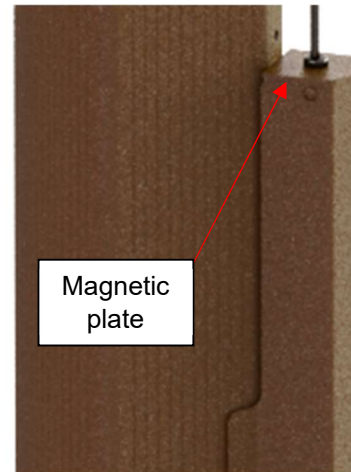
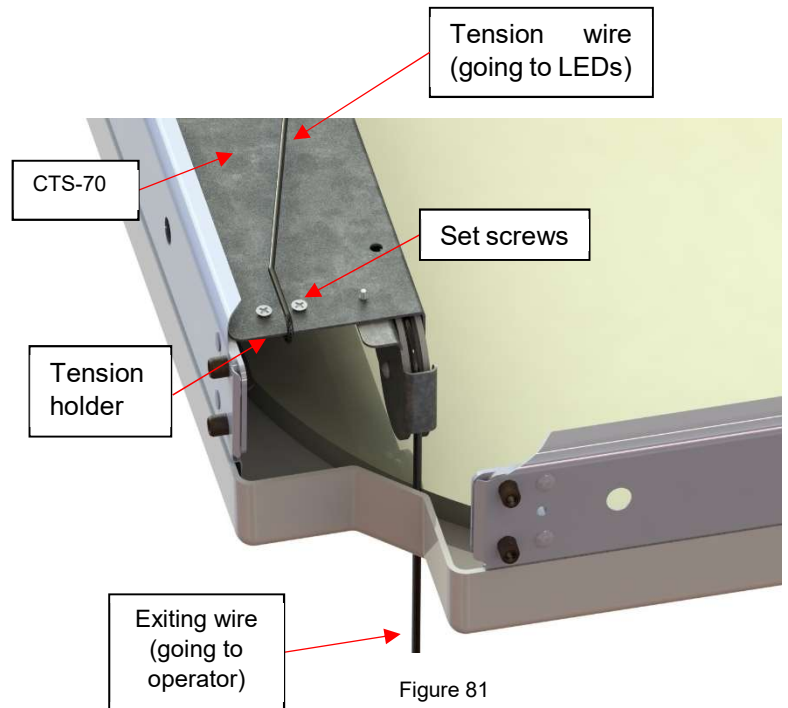

Figure 80
Figure 81
16) *If your cover is completely lowered onto the hot tub, the exiting wire (Figure 81) seems to have sufficient tension and the magnetic plate is properly positioned (Figure 80), skip to next section, lifting mechanism assembly (continued). If not, follow next steps.*
18) Locate the set screws for the tension holder on the CTS-70 (Continuous Tension System). (Figure 81) Lightly unscrew them and pull back the tension wire until a slight resistance is felt. Once the resistance is felt, continue pulling another inch. Check the protruding wire going to the posts, and if the wire is tight enough, retighten the set screws.